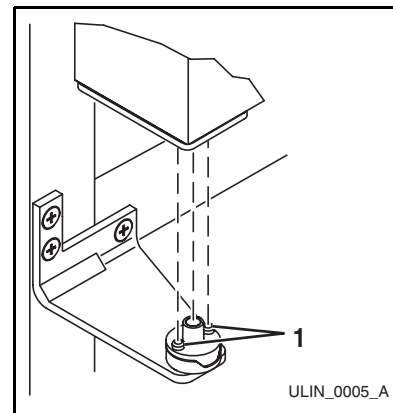
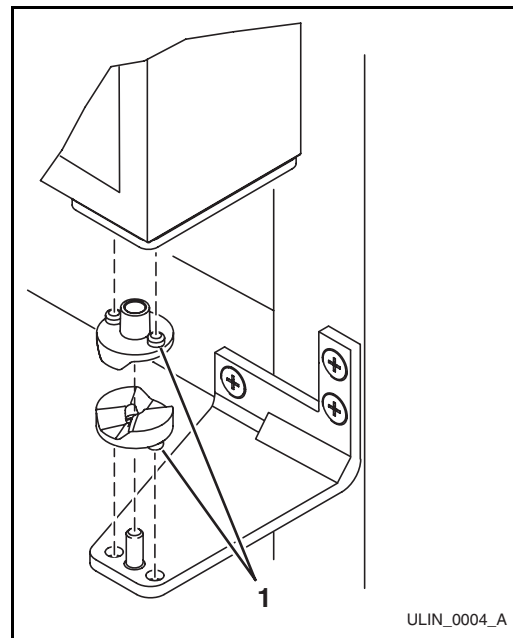

Figure 19
Figure 20
4. Install the removed top hinge mount on opposite side **BOTTOM** (**Figure 19**).
5. Remove the two door closer inserts (**Figure 20, 1**) from the existing bottom hinge and install as shown on the new bottom hinge (**Figure 19, 1**).
9. Holding door upright with top of door tilted forward, place hole of door pivot plate on bottom hinge screw pin/closer inserts (**Figure 19, 1**).